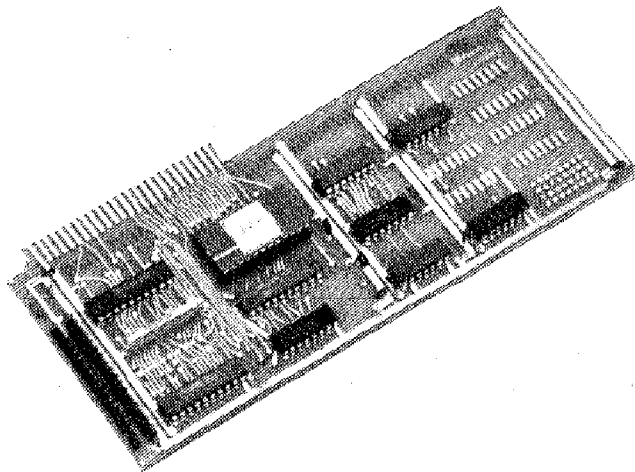

FIGURE 4.1 INTERFACE CARD
2. Insert the CORVUS personality card (see figure 4.1) in slot six and the floppy drive controller in slot four. If you have more than one floppy controller, leave the others out for now.